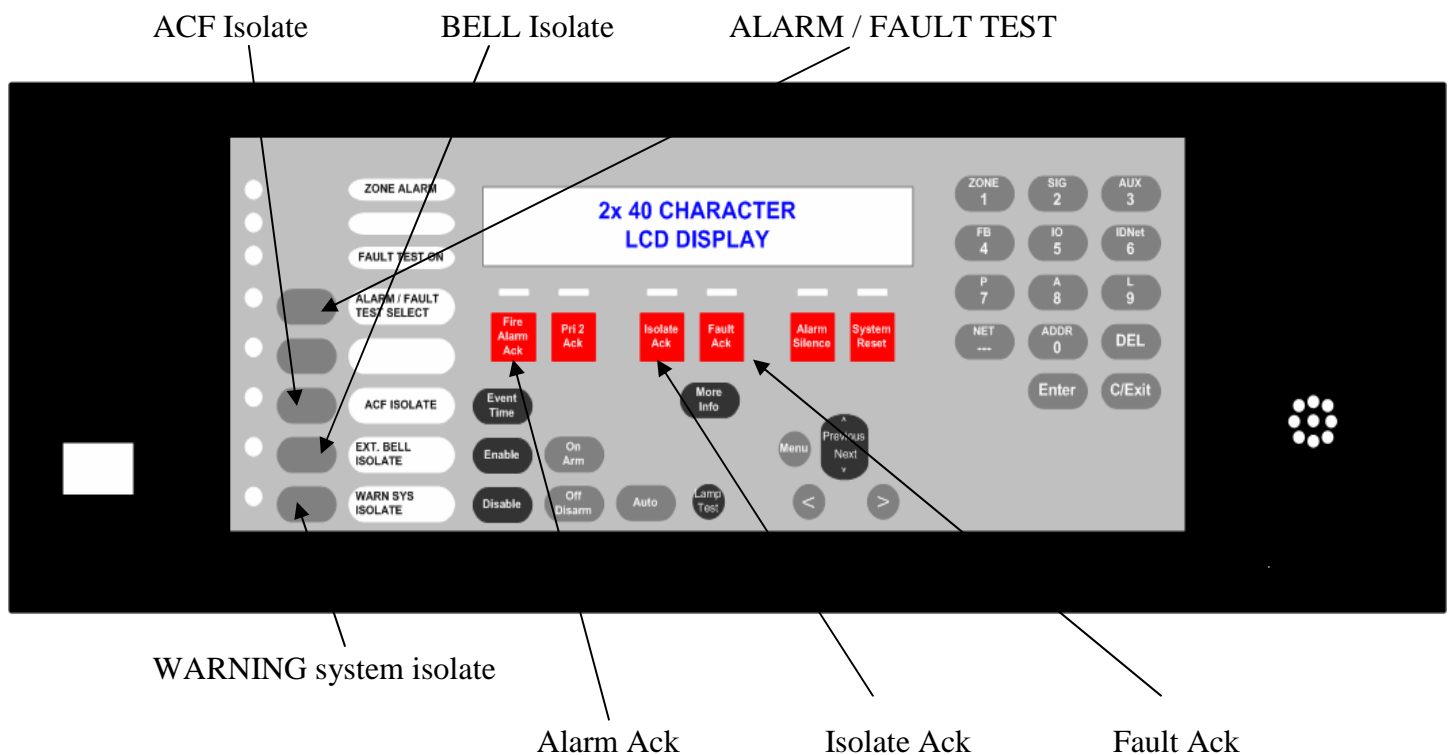
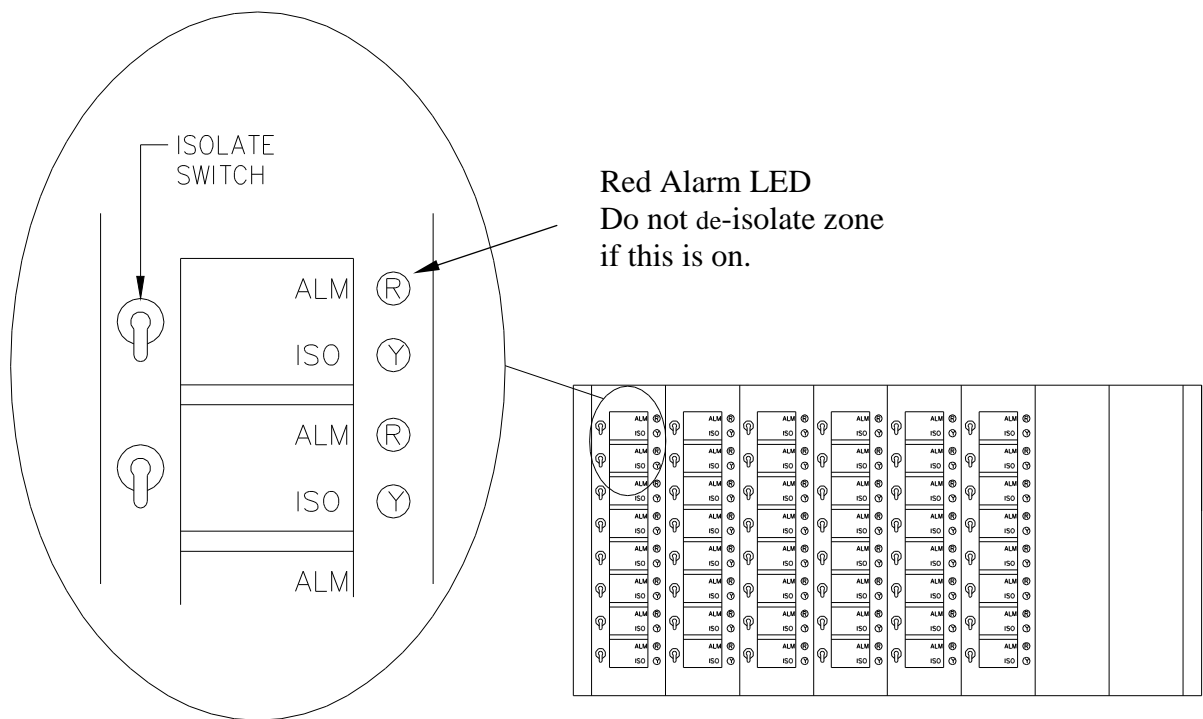

FIGURE 1
FIGURE 2
The Fire Panel consists of two sections – the Keyboard/Display (upper module FIG 1) and the Zone Isolate switches & indicators (lower module FIG 2). The Display indicates Alarm, Fault & Isolation Status & instructs the operator on what key to press next.
3. A Red LED on the toggle switches (see fig 2) will also be “on” identifying the zone in alarm
3. Select the zone you wish to alarm test and press the associated toggle switch this is the same switch you would press to isolate the zone (see fig 2)